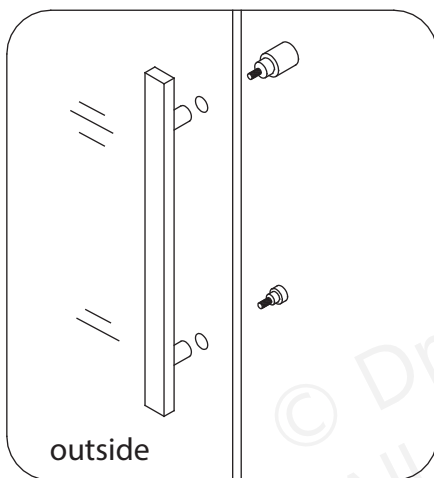

Fig 11
11. Attach the Handle (#05) to the Door Glass (#02). (Fig 11)